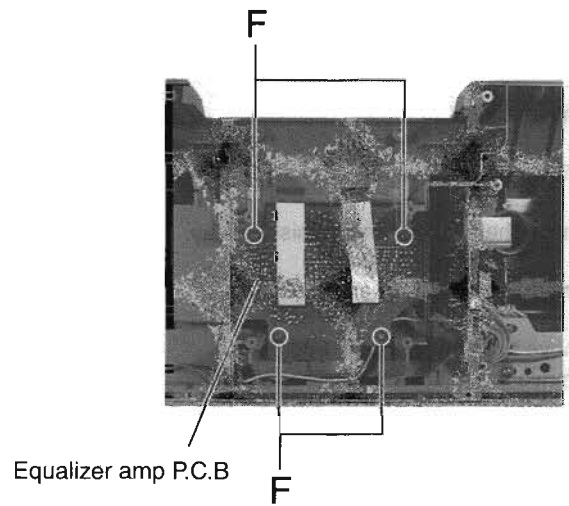

Fig.5
■ Equalizer amp P.C.B removal (See Fig.5)
5. Remove the 4 screws F holding the equraizer amp P.C.B. (See Fig.5)